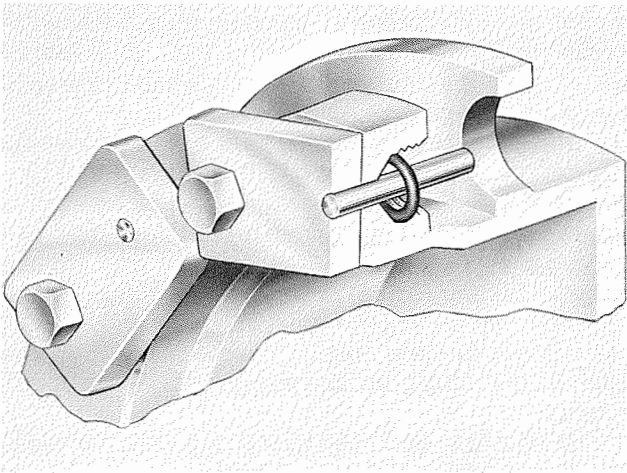

Figure 7-109B. Adapter with Locators and Seal Rings Installed
- c. Coat the nine protruding dowel pins and nine fuel seal rings with Lubriplate 130A, and install the seal rings over the locator dowel pins and into the recesses in the pump adapter outer flange, centered and in as far as possible around the locator dowels. See figure 7-109B.